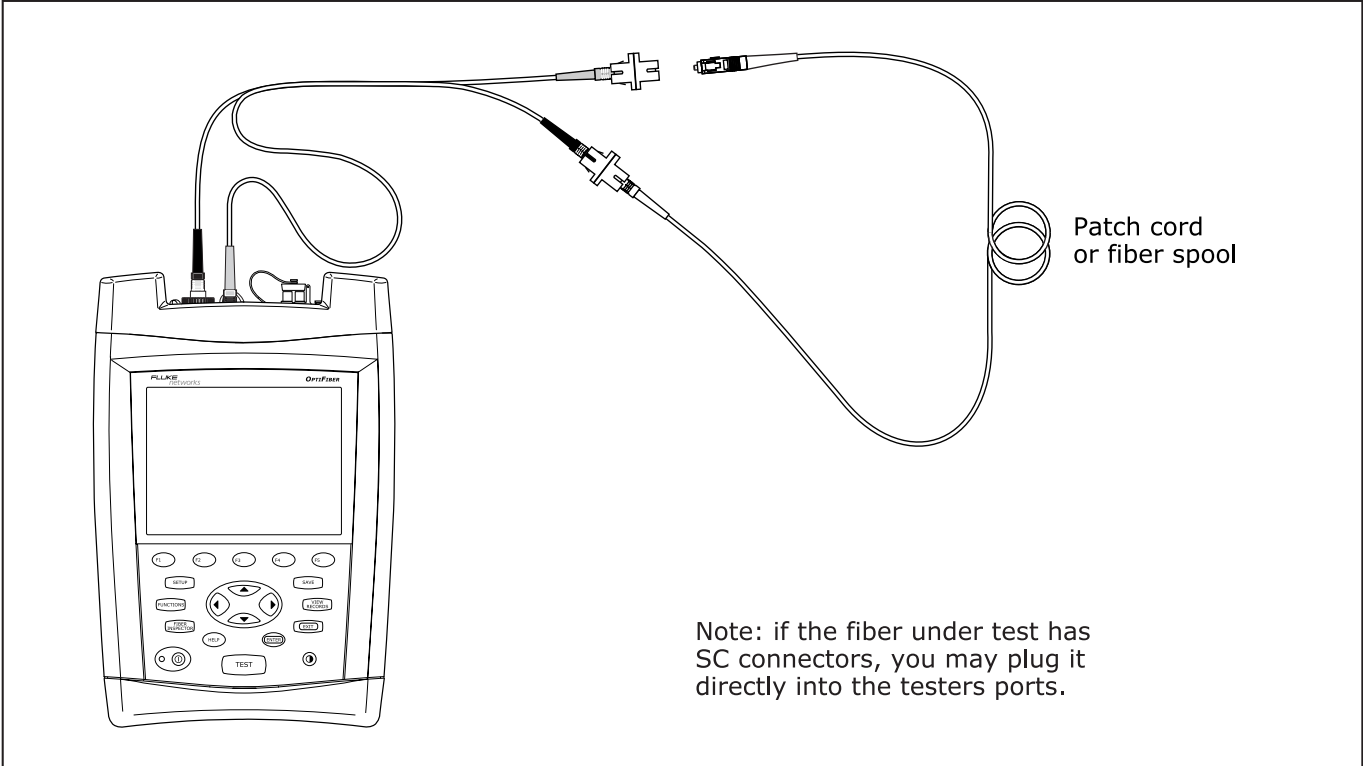

Figure 7-17. Using FindFiber in Loopback Mode
- 2 Clean the tester's OUTPUT connector and the reference test cord connectors; then connect the tester's OUTPUT fiber to one end of the fiber path, as shown in Figure 7-17.